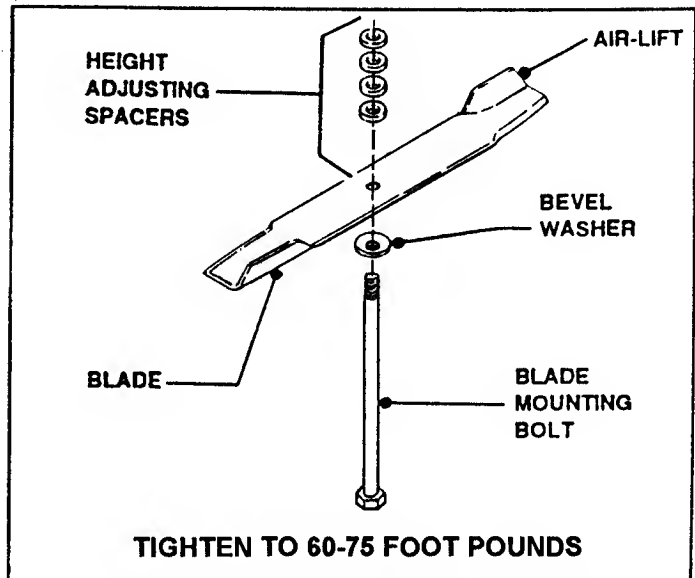

FIGURE 38
10. Install the blade mounting nut on each blade mounting bolt. See Figure 38.